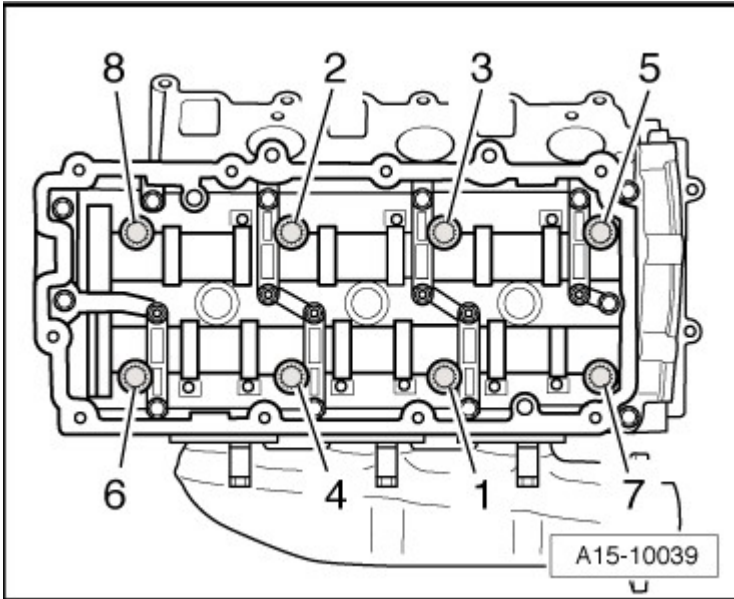

Fig. 6: Identifying Cylinder Head, Tightening Specifications and Sequence
- Tightening specification and sequence, refer to **Fig. 6**